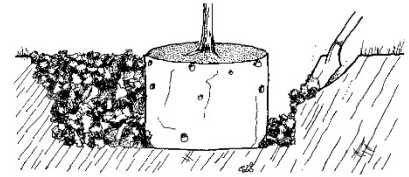

Figure 8. Loosening soil in a large area around the root ball allows for rapid root growth and quick establishment.
**Digging the hole:** A firm, flat-bottomed hole will prevent trees from sinking. Dig the hole only deep enough to position the root collar even with the landscape soil surface (Figure 8). Use a rototiller or shovel to loosen soil in an area three times the size of the root ball. This loose soil promotes rapid root growth and quick establishment.